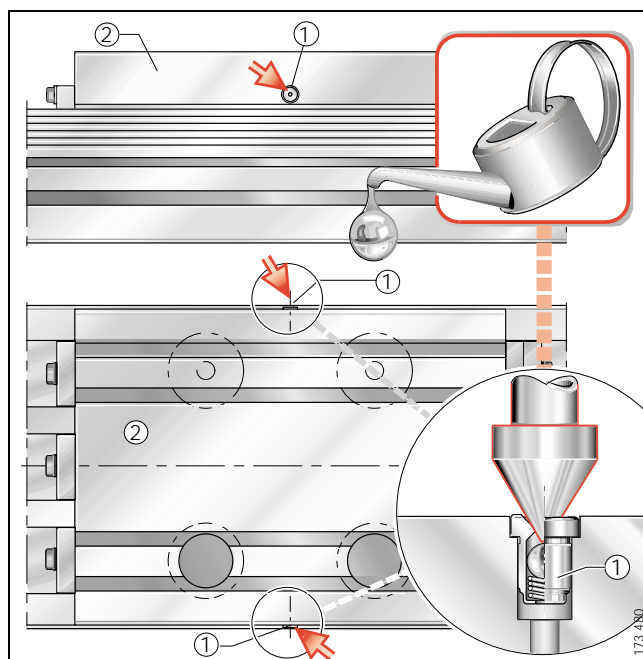

Figure 3 · Lubrication points – MLFI 140 3ZR, MLFI 200 3ZR
Relubrication should preferably be carried out with several partial quantities at various times instead of the complete quantity at the time of the relubrication interval. The support rail raceway is lubricated by an oil-soaked felt insert. Relubrication is carried out via two funnel type lubrication nipples to DIN 3 405-D6 ① on the longitudinal faces of the carriages ② (Figure 3). Relubrication can therefore be carried out from either the left or right side of the carriage.